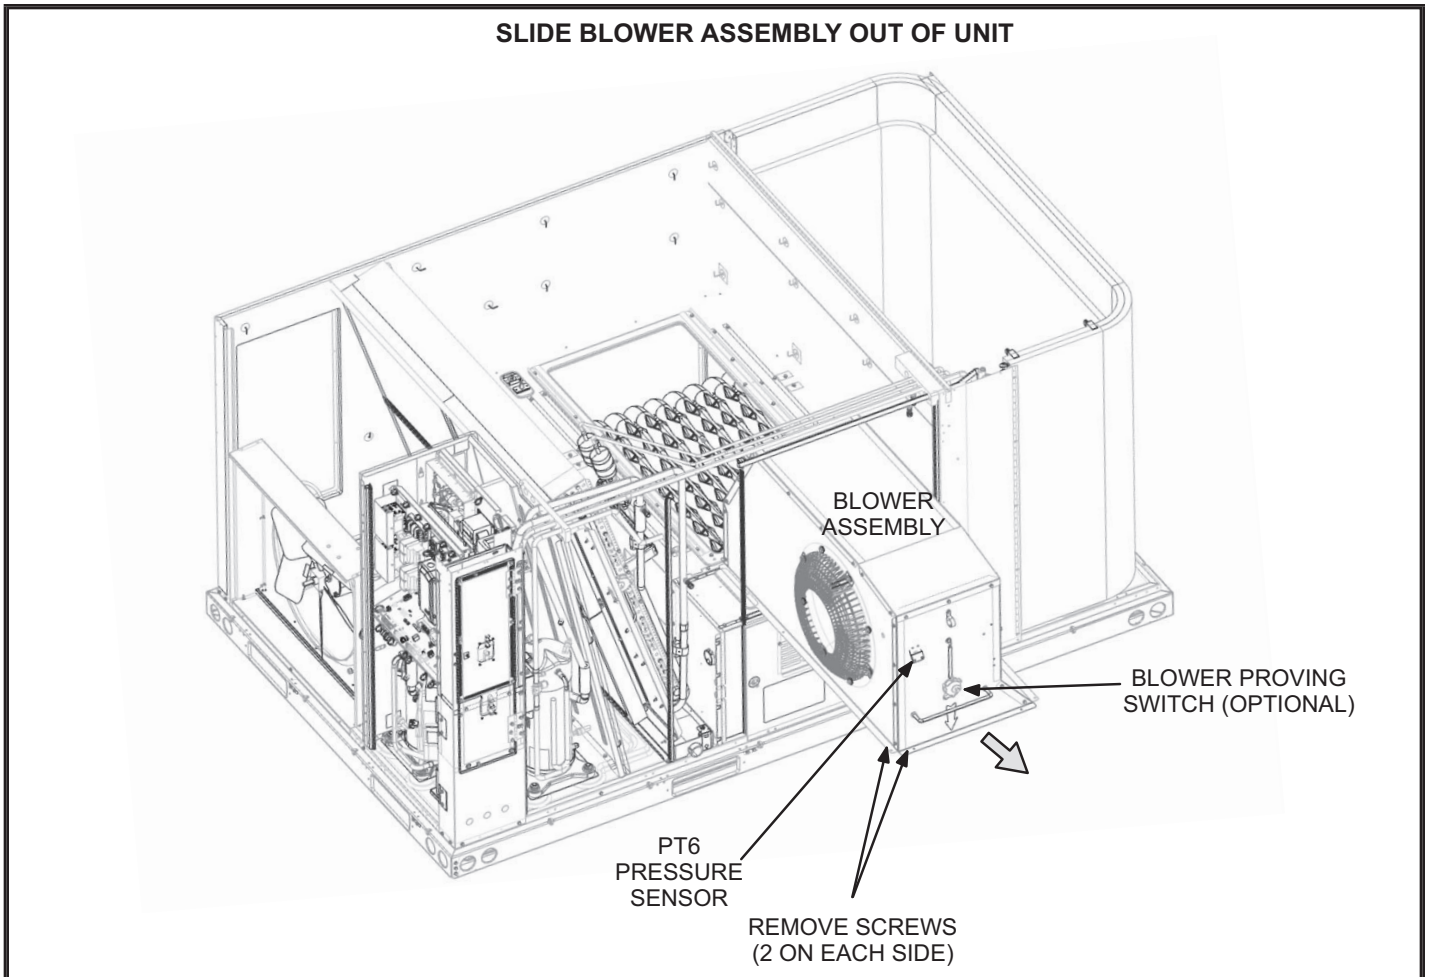

FIGURE 5
- 6 - Remove four screws securing blower assembly to unit. See FIGURE 5.
- 7 - Install blower assembly flanges into rails on the blower deck in the same manner the discarded housing was removed. Secure into place using four screws shown in FIGURE 5.